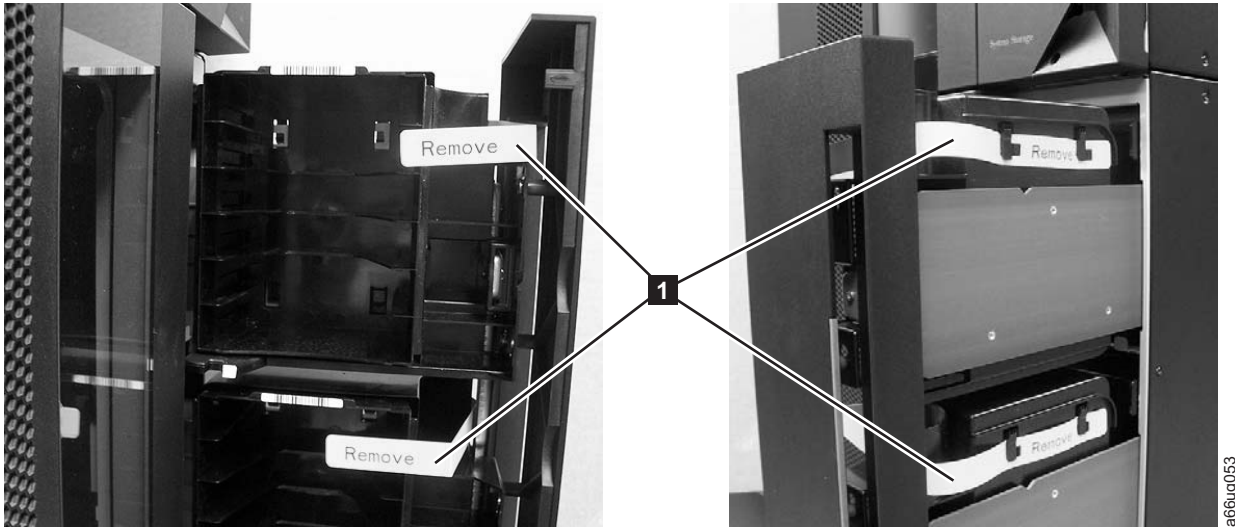

Figure 4-2. Yellow ribbon-like packing pieces
- 5. Remove the yellow ribbon-like packing pieces ( **1** in Figure 4-2) from around the I/O Station magazines.